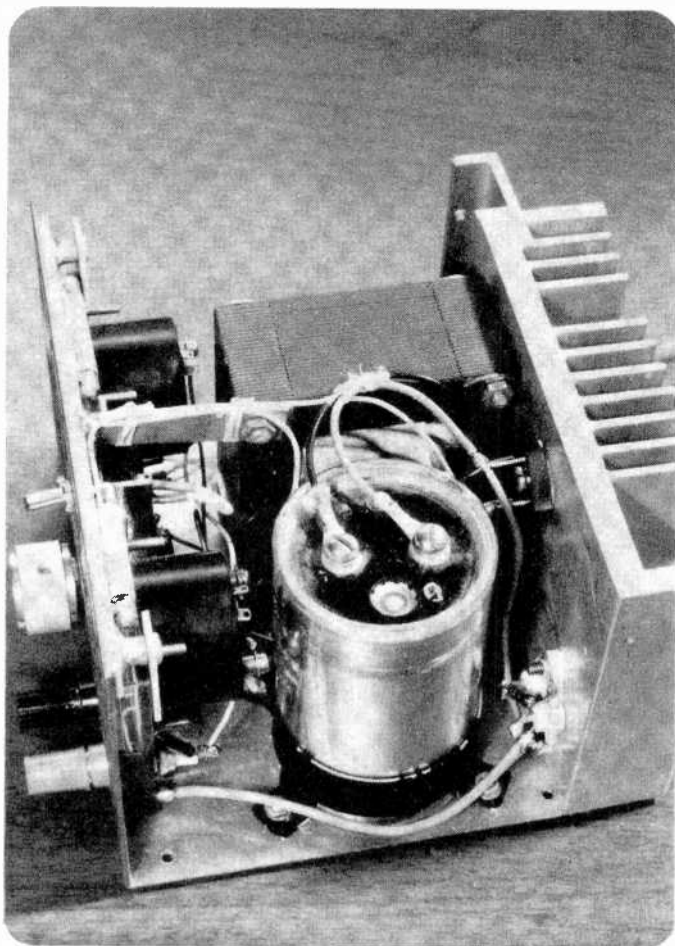

Fig. 5. Interior view of the author's prototype. Heat sink must limit IC temperature to 75°C above ambient.
**Construction.** The 1.5-ampere bench supply was constructed in an aluminum enclosure measuring 4"H by 6"W by 5"D (10.2 x 15.2 x 12.7 cm). The back of the case was removed and replaced with an aluminum heat sink containing thirteen 1-inch (2.5-cm) fins. An interior view of the author's prototype is shown in Fig. 5. The heat sink selected must be of sufficient size to limit the regulator temperature to no more than approximately 75°C above ambient when dissipating a maximum of 25 watts.